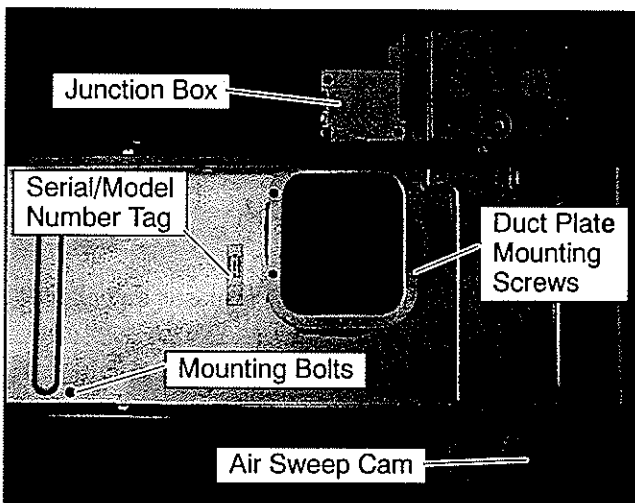

Figure 3-3 Ceiling Panel Assembly
To remove the ceiling panel (Figure 3-3) do the following:
- b. Remove cam (See Figure 3-3) from air sweep motor shaft.